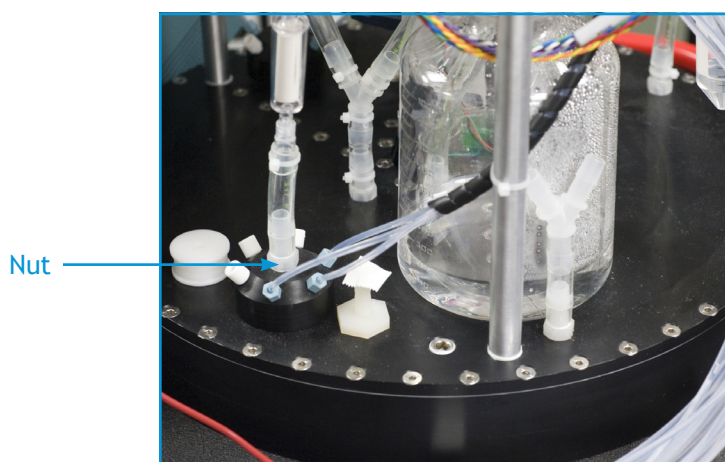

Figure 5-4: Opening to waste container
- Using a 9/16-inch box wrench, loosen the nut for the air-filter assembly from the manifold to the first waste container to be emptied. See Figure 5-4.